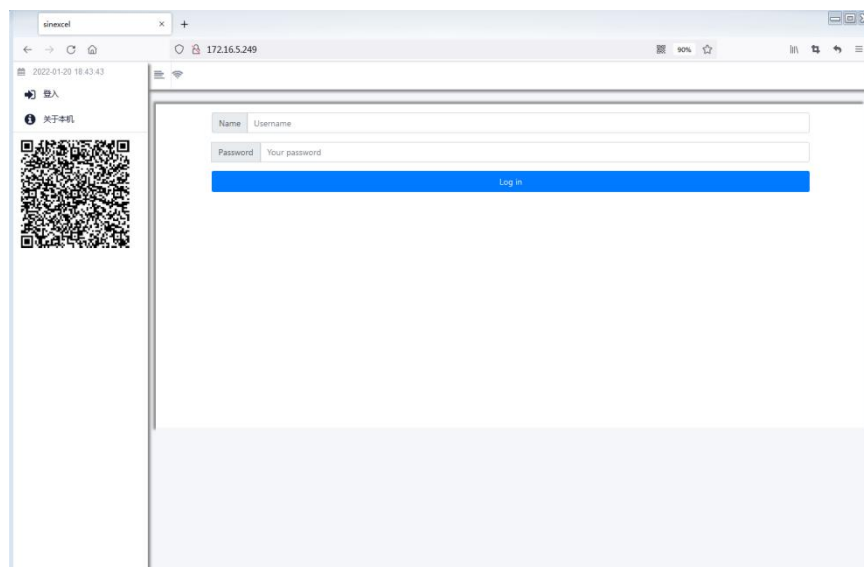

Figure 7.1 Login Interface
Use an Ethernet connection. First, open a browser on the computer desktop, then enter the device's default IP address (LAN1: 192.168.1.10, LAN2: 172.16.1.10) in the browser's address bar. The login interface shown in Figure 7.1 will appear.
2) First, open the browser on the computer desktop (Google Chrome is recommended), then enter the machine 's default IP (LAN1: 192.168.1.10, LAN2: 172.16.1.10) in the browser 's URL bar, and the login interface shown in Figure 7.1 will appear.
Click “Log in” to enter the background operation interface of PWS1-450M-H-L-EX, as shown in Figure 7.1.